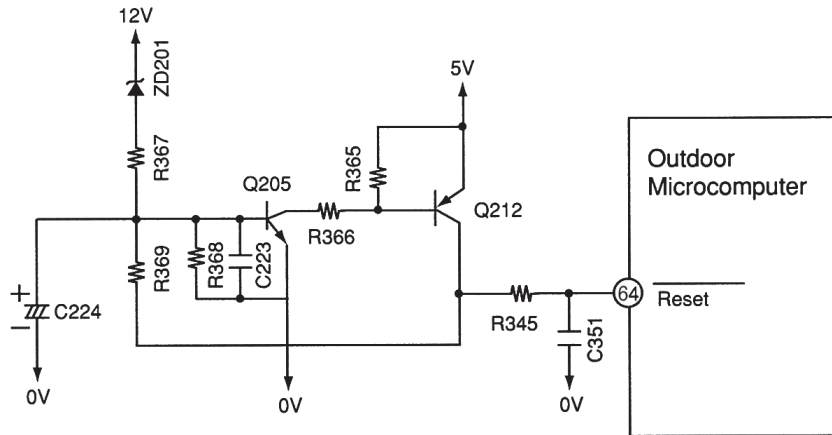
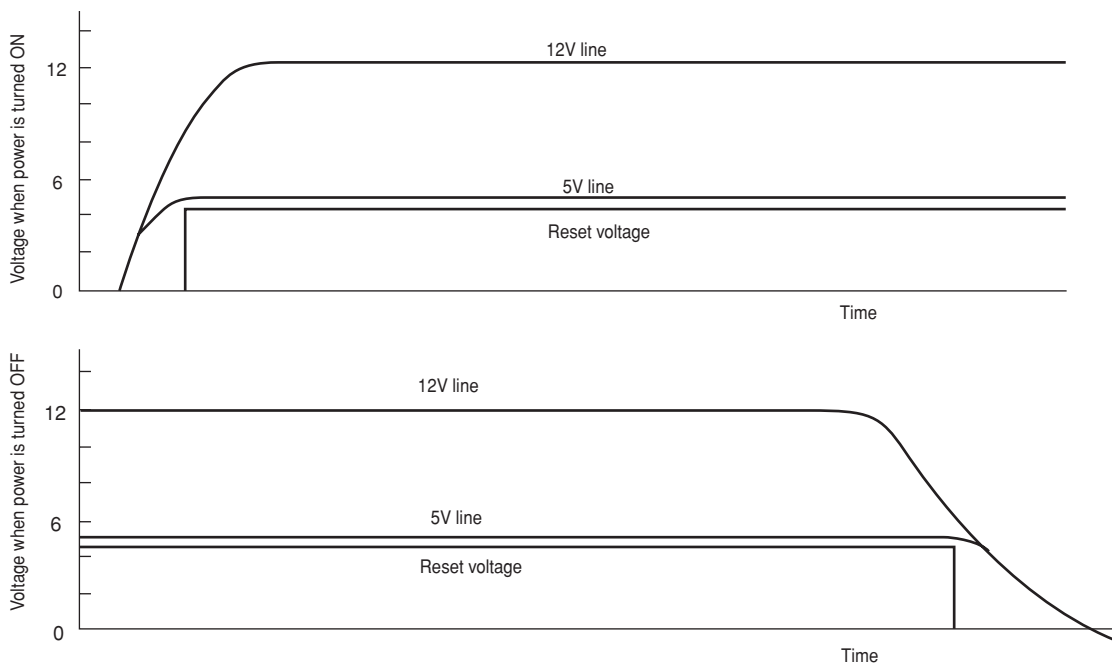

Fig. 7-1
Fig. 7-2
- Fig. 7-1 shows reset circuit, and Fig. 7-2 shows waveforms at each point when power is turned on and off.